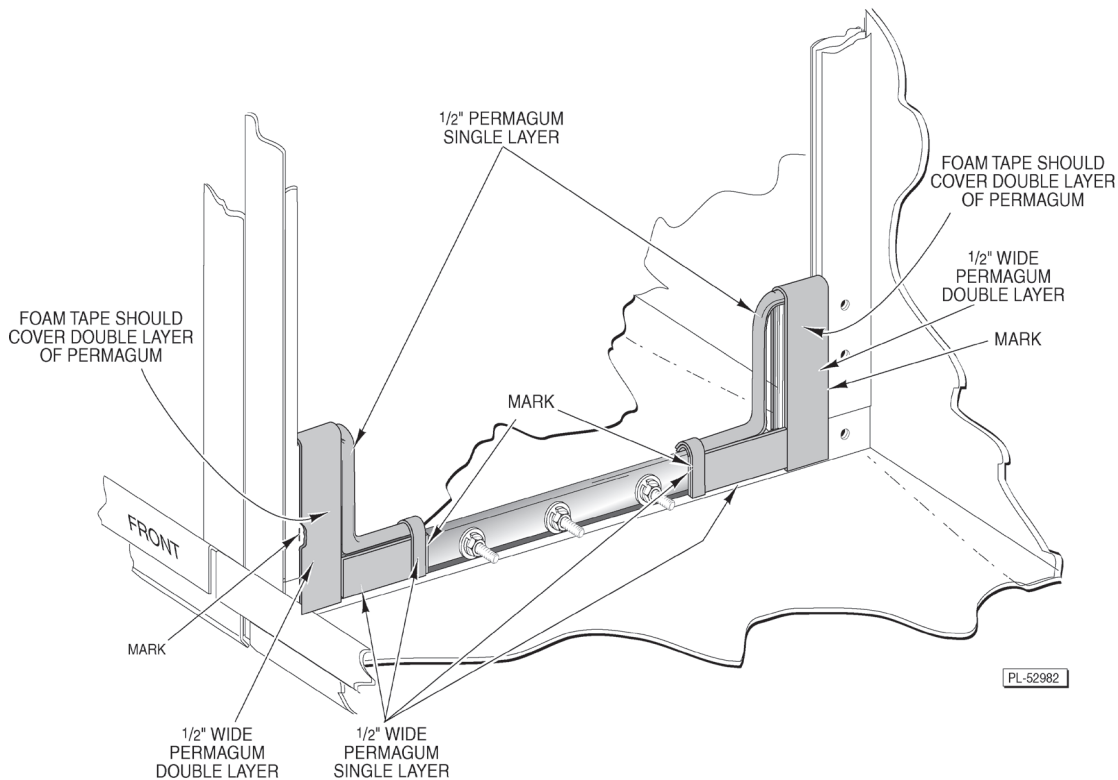

Fig. 14
3. Cut the strips of 1/2"-wide Permagem and apply (Fig. 14) in a double layer over the chamber flanges, where the front edge of the front end cap and the rear edge of the rear end cap are marked.
4. Cut strips of 1/2"-wide Permagem and apply in a single layer where the bottom of the end caps will be located (Fig. 14).
6. Cut strips of 1/2"-wide Permagem and apply in a single layer up and over the inside end of the end caps on both sides, where marked (Fig. 14). Apply a strip of foam tape over the Permagem.